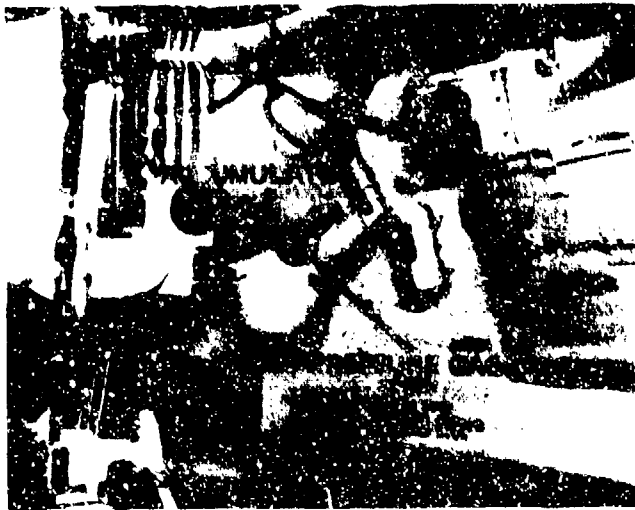

Figure 7-8. Pressure gage/accumulator type.
(5) Open the replenisher bleed cock slightly to bleed off any accumulated air from the replenisher and, when air-free fluid continues to flow from the bleed cock, close the cock.
(6) Check the accumulator gage (fig 7-8) for a pressure reading of 17 to 24 psi.
(7) On the M109A1 if gage reads below 20 psi (on the M109A2/A3 below 17 psi), start over from step 1. If gage reads above 24 psi, bleed from any of the 4 places until gage reads below 21.
(8) If the check shows that the replenisher is low on fluid, add fluid to the correct operating range; if the check shows that the replenisher is overfilled, drain to the correct operating range.
(9) Rebleed the system if required and check for fluid leaks. Remove the M3 oil gun.